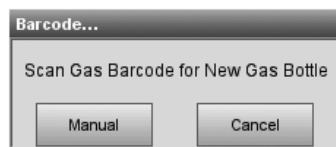

Fig. 7-22 Scan Bar Code
4. When prompted (Fig. 7-22), scan the new gas bottle bar code on the insert sheet by holding it 2-3 inches (5-8 cm) from the bar code scanner on the bottom right-hand corner of the analyzer.
*NOTE: If the insert sheet is misplaced, you can enter the lot number on the gas bottle label manually. Press **<Manual>** (Fig. 7-22) and enter the number using the numeric keypad.*